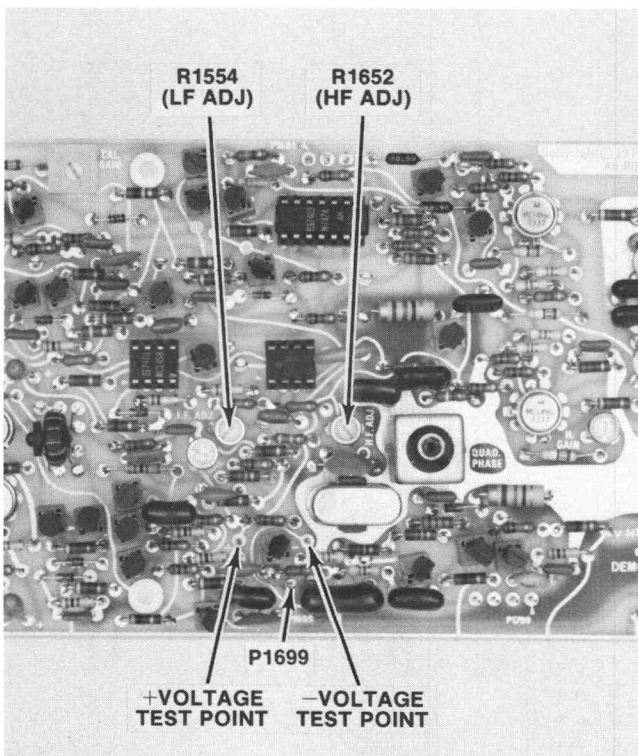

Fig. 3-15. Oscillator range test points and adjustments.
- Connect the 1X probe from the Test Package digital counter to TP1775 on the Demodulator board. See Fig. 3-15. The digital counter will display the sub-carrier frequency.
- Connect a short piece of wire between P1699 and the + voltage pin. See Fig. 3-15.
- Move the short piece of wire to connect P1699 to the -voltage pin. See Fig. 3-15.